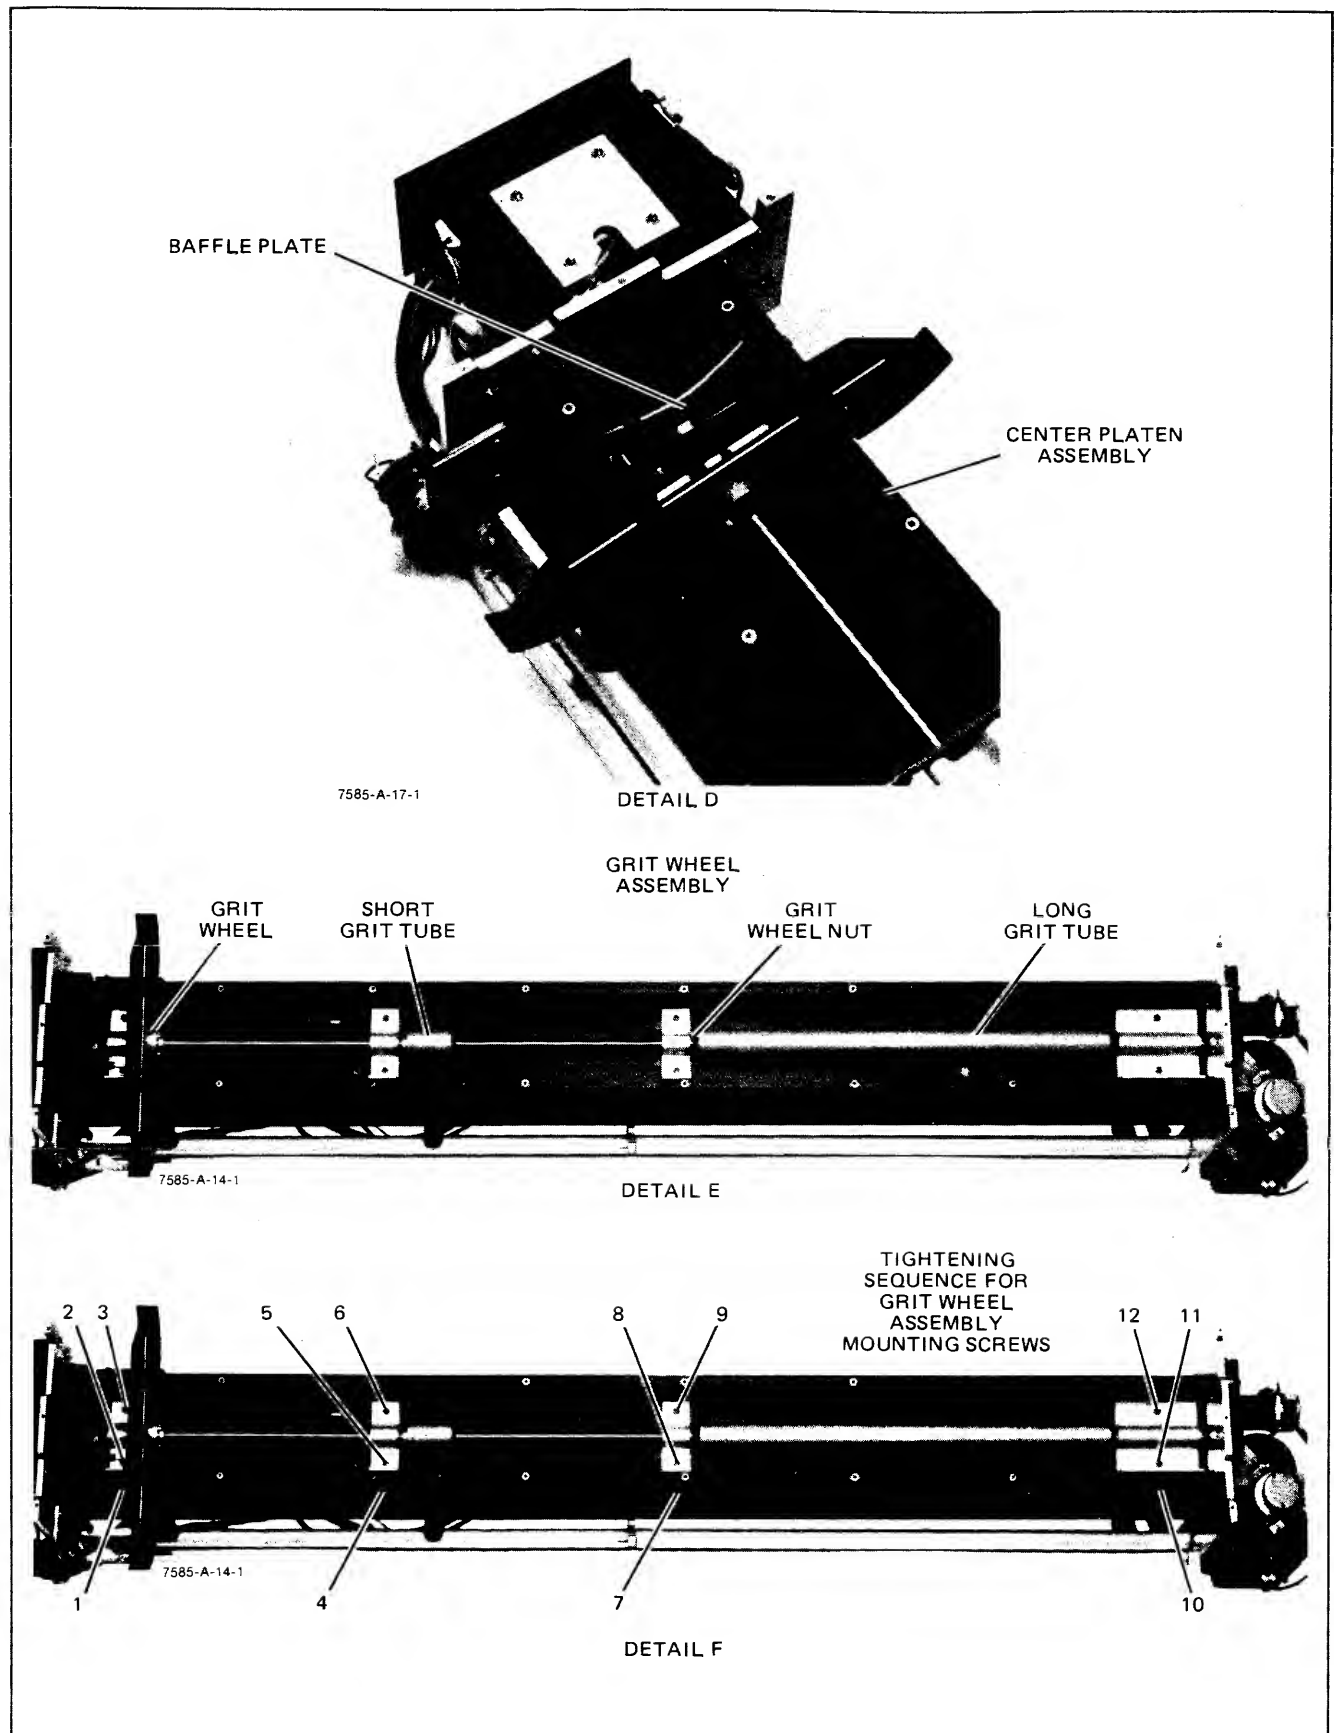

Figure 6-14. Grit Wheel Replacement (Sheet 2 of 2)
- w. Assemble the new grit wheel. Do not tighten the grit wheel nut at this time. See Figure 6-14, Detail E.
- z. Center the small grit wheel in its opening in the platen. Tighten the twelve grit wheel assembly mounting screws in the sequence given in Figure 6-14, Detail F.
- ab. Center the large grit wheel in its opening in the platen. Using two half-inch (1/2 in.) open end wrenches, one on each of the grit wheel nuts, tighten the grit wheel nut. See Figure 6-14, Detail E. Tighten the grit wheel nut to approximately 90 inch-pounds of torque.